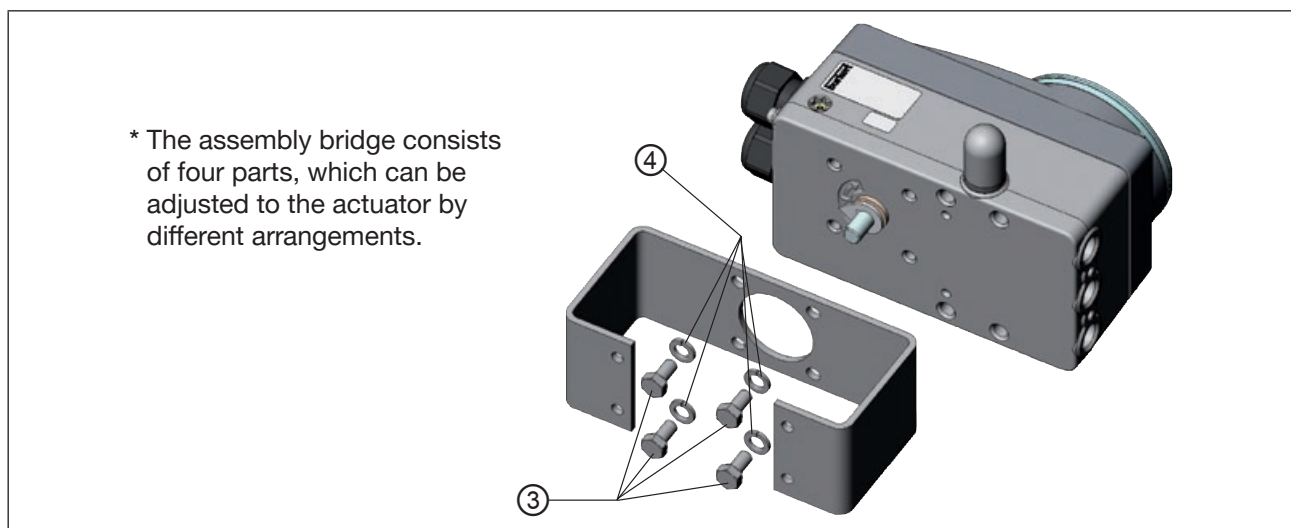

Figure 16: Attaching the assembly bridge (schematic representation)
→ Attach the assembly bridge by 4 hexagon bolt ③ and circlips ④ to Type 8792/8793 (see “Figure 16”).